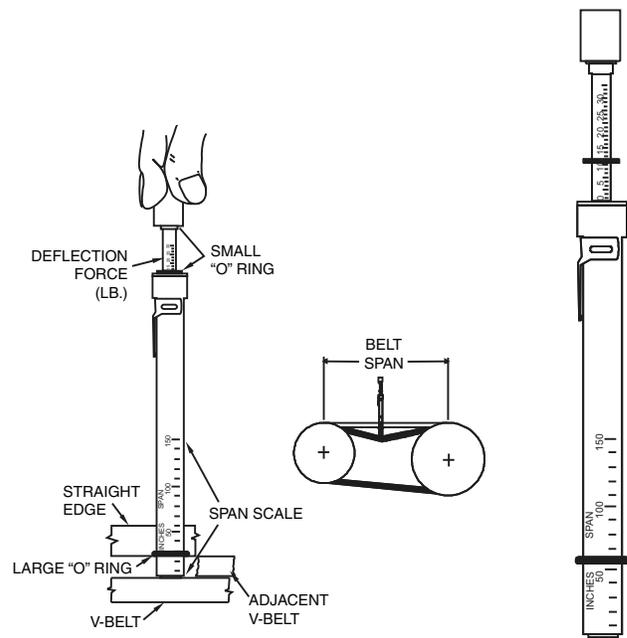

Fig. 56 — Fan Belt Tension
When installing or replacing belts, always use a complete set of new belts. Mixing old and new belts will result in the premature wear or breakage of the newer belts. See Fig. 56.
- 1. Measure the belt span (see Fig. 56).